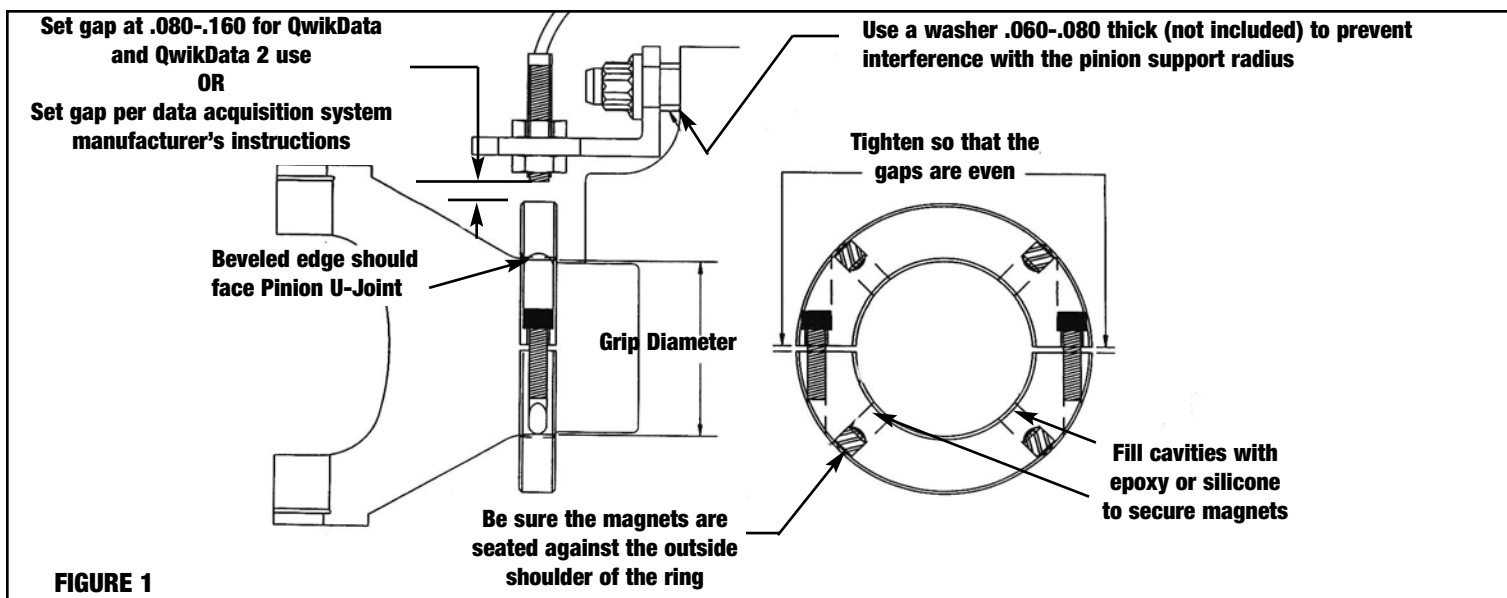

FIGURE 1
- **Note:** Refer to Figure 1 below for reference on all steps.
4. Attach the Sensor Switch Bracket to a bolt or stud on the rear end housing as shown in Figure 1. Attach Sensor Switch and adjust gap to .080-.160 for QwikData use, or to your data acquisition system specification.